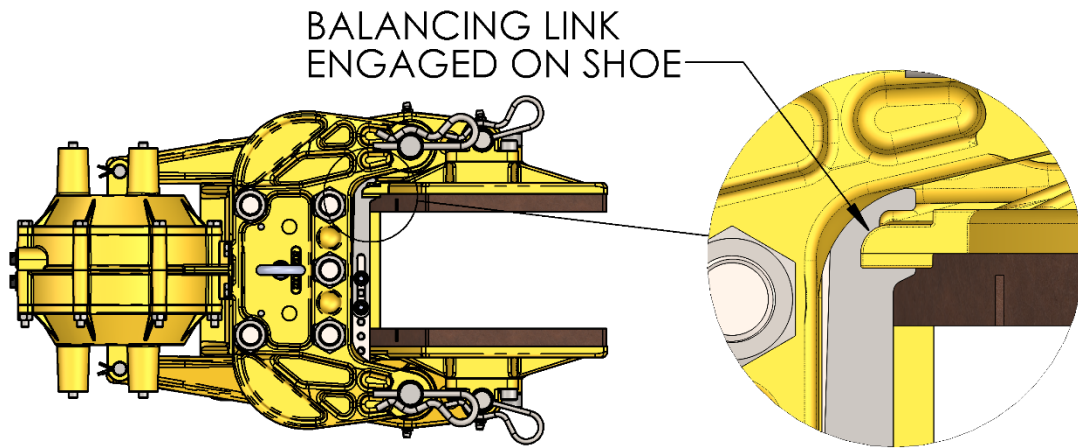

Figure 8: Balancing link engaged on shoe
19. Place the shoe assembly back into the caliper lining the bore of the pivot blocks with the bores of the lever shoe pin bore. Ensure the balancing link is placed back onto the shoe as shown in Figure 8.